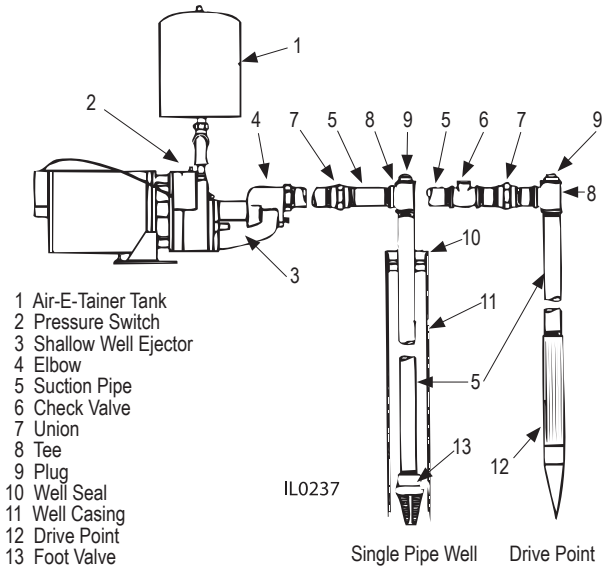

Figure 3 — Shallow Well with Air-E-Tainer Tank, Single Pipe or Drive Point
1. On single pipe installation (see Figure 3) attach foot valve to the end of the suction line and set in the well making certain the valve is below the water level. The foot valve should be at least five (5) feet from the bottom of the well to prevent sand from being drawn into the system.
2. When connecting a drive point (Figure 3) a check valve must be used in the suction line in place of a foot valve. For easy priming connect the check valve as close to the well as possible.